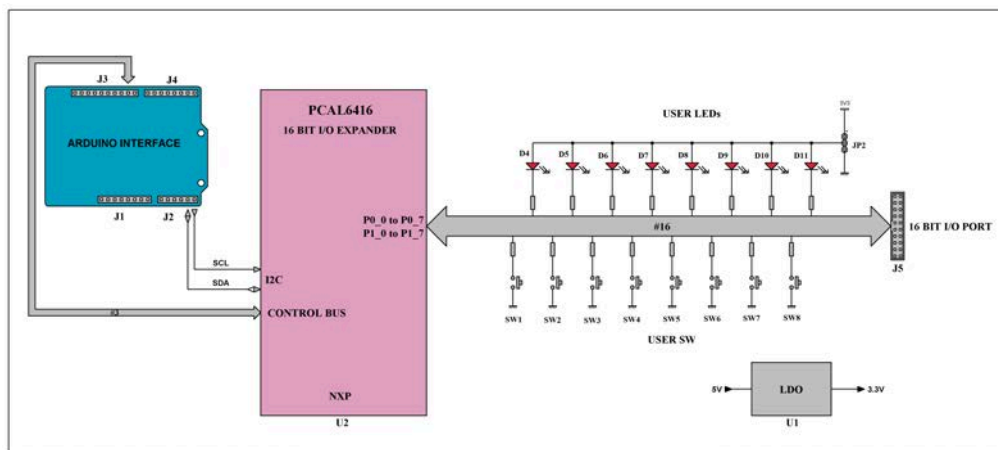

Figure 2. PCAL6416AEV-ARD block diagram
**Figure 2** shows a block diagram of the PCAL6416AEV-ARD daughter board. Alongside the DUT (U2), the block diagram includes Arduino interface (J1, J2, J3, and J4 connectors), the I/O external connector (J5), the on-board LEDs (D4 to D11), and switches (SW1 to SW8).